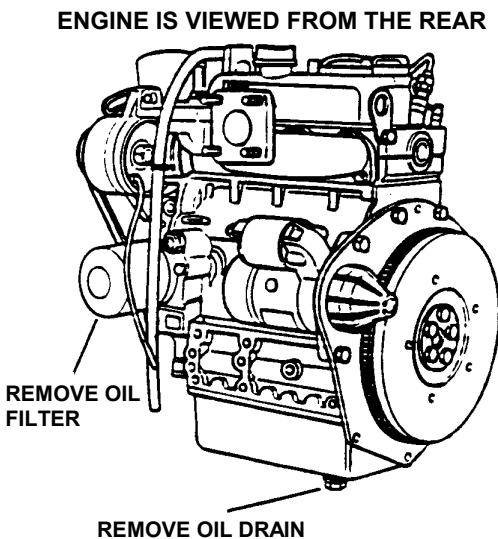

FIGURE 4.1
2. Remove the oil drain plug. See Figure 4.1.
3. After all the oil has drained, reinstall oil drain plug and tighten securely. See Figure 4.1. Wipe up any oil that may have spilled. Dispose of drained oil properly.